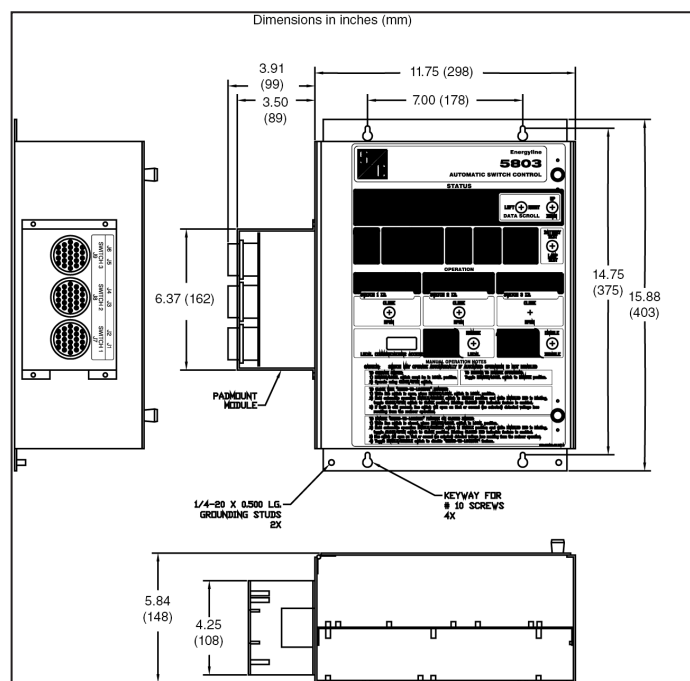

Figure 18. Switch control chassis for mounting in pad-mounted gear.
2. Position the switch control so the four studs align with the four holes in the mounting flanges. See Figure 18.